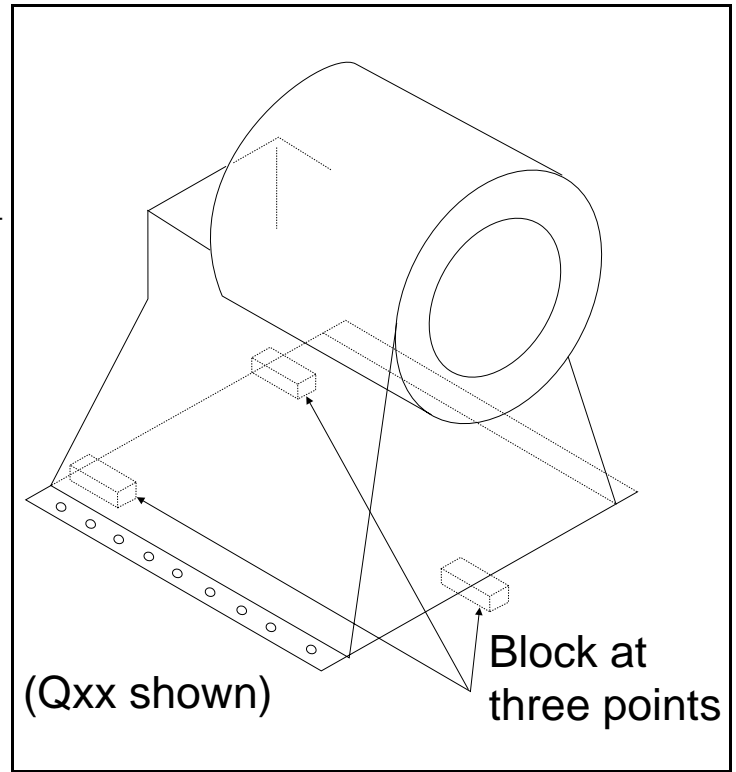

FIGURE 1 (MSIN0206AE)
See FIGURE 1 during the following procedures:
1. With the machine near the final location, unbolt the shipping skids. Observing all precautions, lift the machine off its skids and apply a light coat of grease to the underside of the right and left side base plates (so machine can be lifted off of the grout to remove temporary blocking). Lower machine onto temporary blocking as shown in FIGURE 1. Install anchor bolts, taking care to align the bolts with the base plates to avoid bolt thread damage.
- ☞ Place temporary blocking at the three locations shown in FIGURE 1, not at four locations to avoid a “teeter-totter” condition.